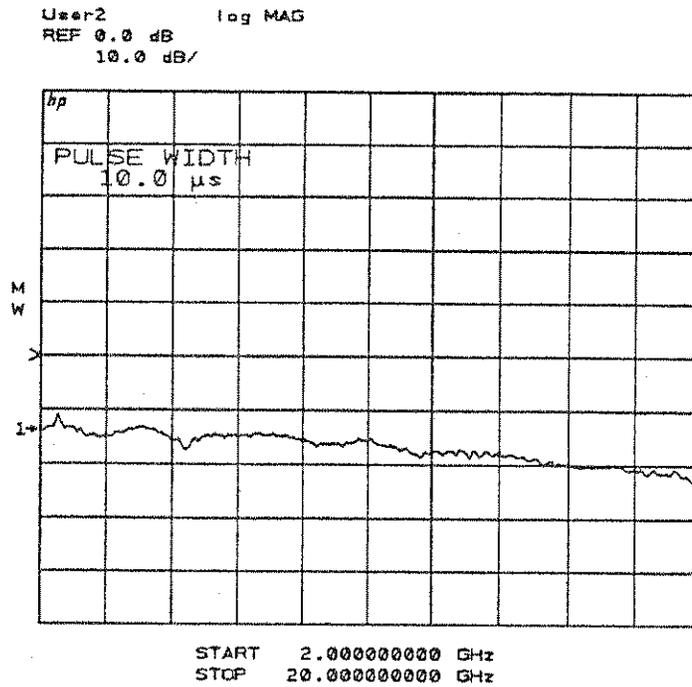
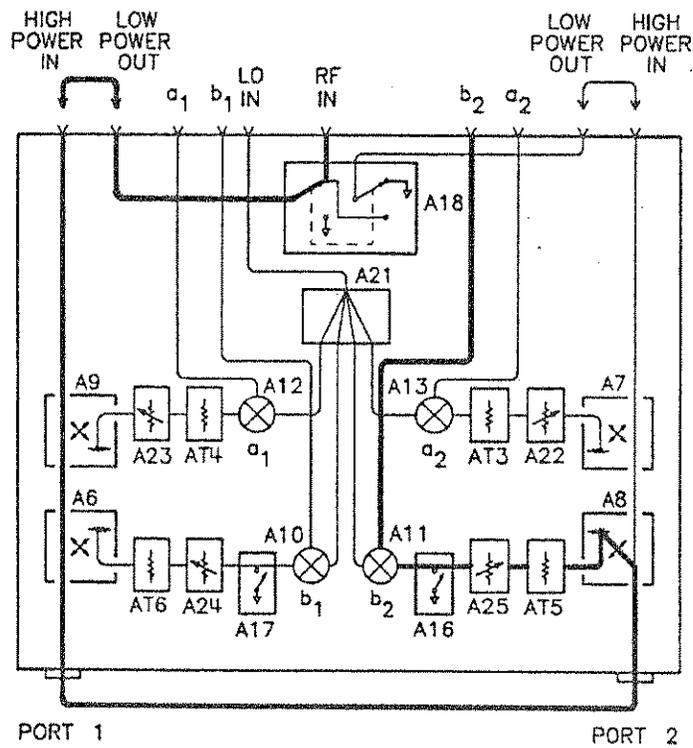

Figure 5-8. Typical b2 Thru Signal Trace
Figure 5-8a. b2 Thru Signal Path
8. Press PARAMETER [MENU] [USER 2 b2] [REDEFINE PARAMETER] [DRIVE] [PORT 1] [PHASELOCK] [a1] [REDEFINE DONE] and observe the b2 power level trace shown by Figure 5-8. If the power level is not within +5 dB of that shown in the figure, refer to the procedure titled *If Any User Channels Look Bad* at the end of this section. Figure 5-8a identifies the RF signal path and components which affect the b1 thru signal path.